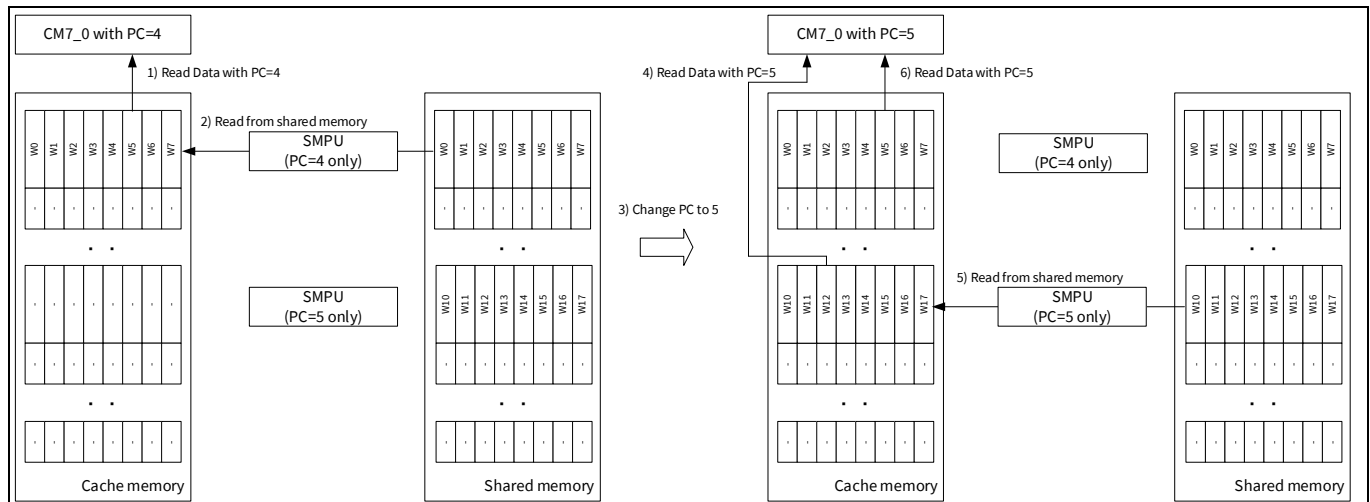

Figure 25 Scenario switching PC
The Protection Context (PC) and Secure attributes, which are the access protection attributes of S MPU and PPU, are added outside the CPU. Therefore, access to cache memory does not detect protection violations of these access attributes. Figure 25 shows the cache issue scenario in this case. The preconditions are as follows: